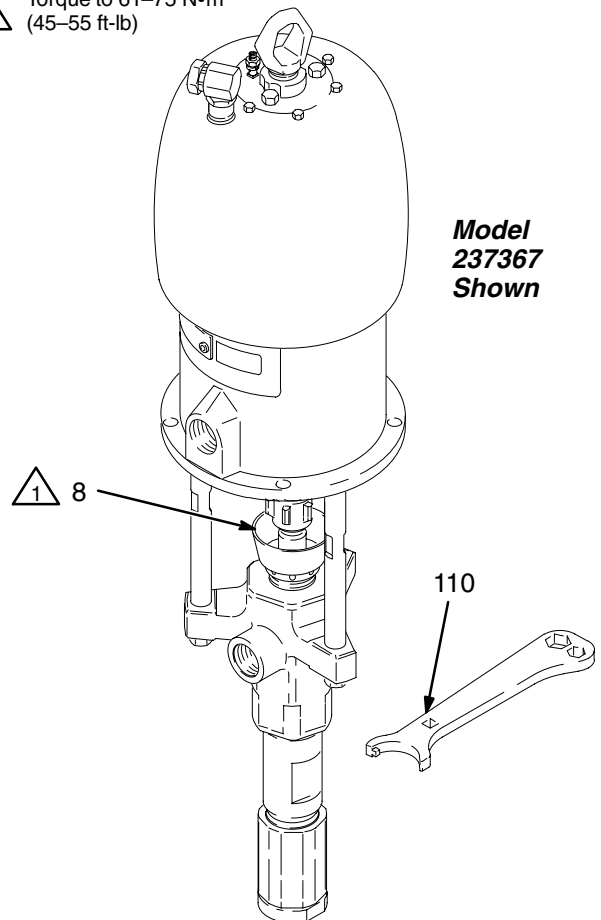

Fig. 4
Before starting, fill the packing nut (8) 1/3 full with Graco Throat Seal Liquid (TSL) or compatible solvent. See Fig. 4.